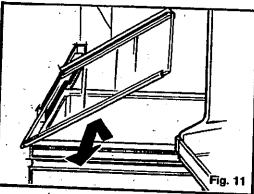

Fig. 11
4. Push crisper cover shelf toward back of cabinet until it clears front corner shelf retainers. Tilt shelf and take it out (Fig. 11).